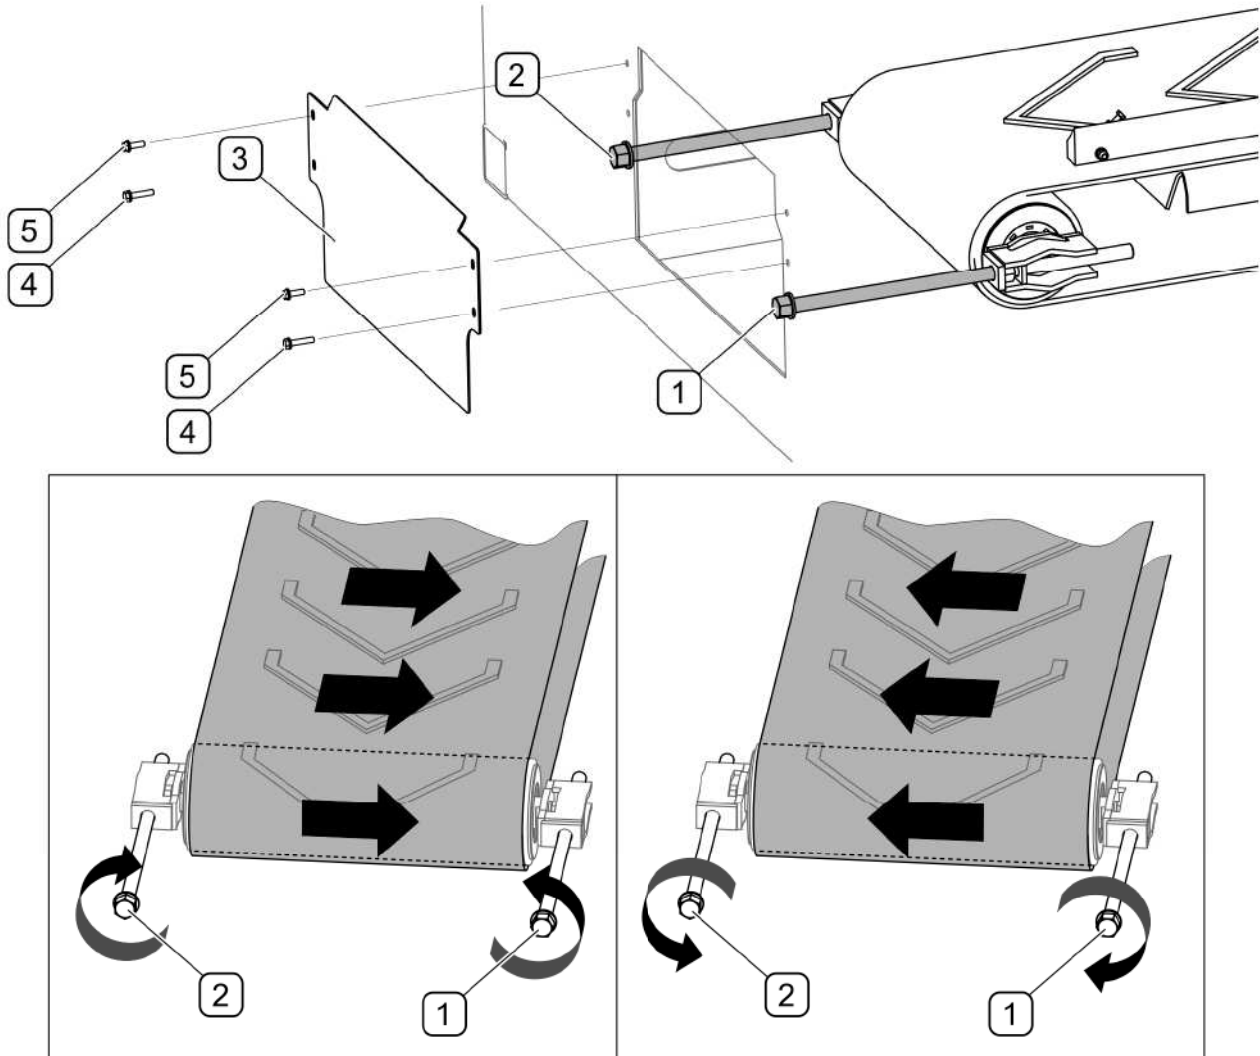

FIG. 5.4 Adjustment of tightening roller
Before starting conveyor belt adjustment (FIG. 5.4), unscrew bolts (4) and (5) and remove cover (3). Activate "UNLOADING" function in "COUNTERS" menu on the control panel. A detailed description can be found in section 4.9 UNLOADING.
Conveyor belt is adjusted during conveyor operation by means of tensioning bolts (1) and (2) located on the front wall of the tank (FIG. 5.4). Depending on shifting of conveyor belt (FIG. 5.4), choose proper rotation direction of tensioning bolts (1) and (2). During the adjustment, make one turn of each bolt and wait for some time to see the effect of the adjustment. Repeat the activity until moving conveyor belt is positioned in the middle of the conveyor roller.
Conveyor belt can be tightened when the conveyor drive is switched off. Conveyor belt is tightened by means of bolts (1) and (2) located on the front wall of the tank (FIG. 5.4). Turn both bolts (1) and (2) clockwise using force of about 25 Nm. To avoid shifting the belt sideways to the edge of the roller, turn both bolts by the same number of rotations.